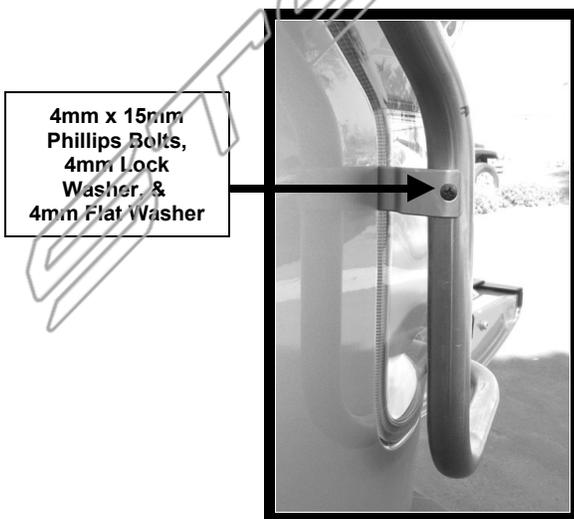

Figure 3
- Attach Taillight Guard to Support Bracket using the included (1) 4-.70mm x 15mm Phillips Screw, (1) 4mm Lock Washer, (1) 4mm Flat Washer (Figure 3). Do not tighten at this time.